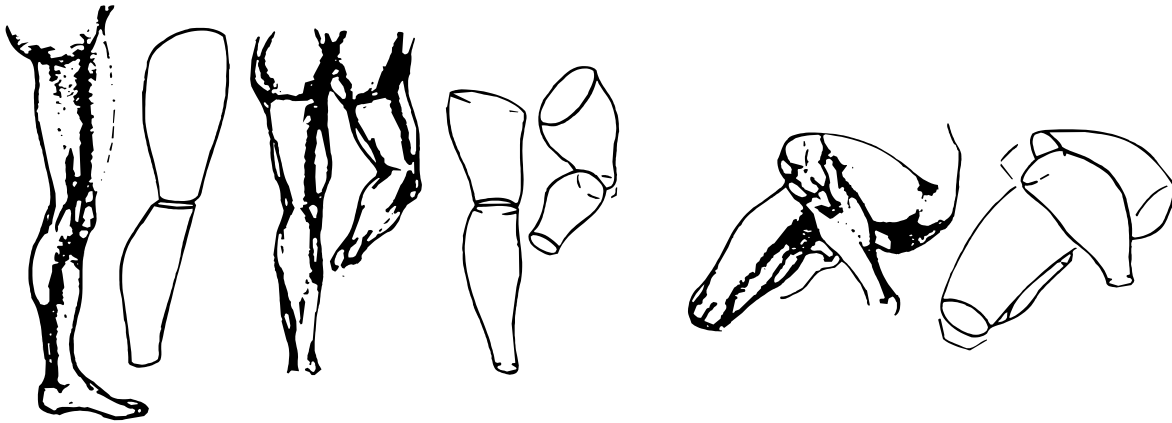

Figure K-8. The leg.
i. The leg has two parts, the thigh and the shin, which correspond to the upper arm and forearm of the upper body. The thigh extends from the pelvis to the knee, and the shin from the knee to the foot. The thighbone is the longest and strongest bone of the body. The column of the thigh and shin diminish in thickness as it descends to the ankle. From either side a wedge shape overlaps the rounded form of the thigh, and this again overlaps the form above and below the knee joint. (See Figure K-8.)